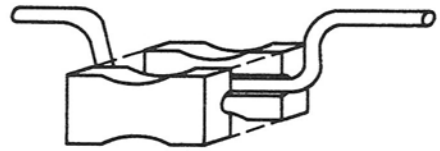

Figure 4-41. Connecting rod spool.
3. Make a spool to carry the connecting rod around the cam by drilling a 3/16-in. hole through a 1/2 x 1/2 x 5/8 in. piece of wood (Fig. 4-41). Then saw it lengthwise and glue the two pieces around a cam, using a small clamp.